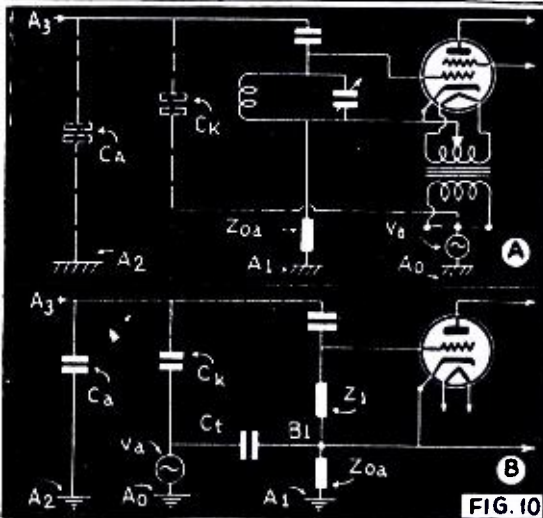
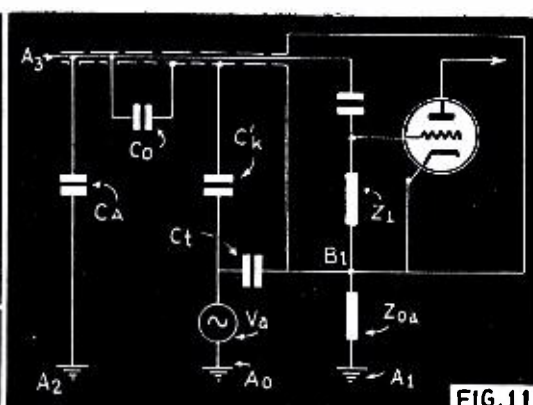

FIG. 10
FIG. 11
Fig. 10. Circuit of the input of a radio receiving set (A) with the corresponding equivalent circuit (B). The aerial A3 is loosely coupled with the tuned circuit represented by Z1. The aerial lead wire possesses stray capacities Ca toward ground (A2), and Ck toward the source of interference Va. The ground point B1 of the receiving set is connected with ground A1 over the ground impedance Z0a. The capacitive coupling of the source of interference Va with the supply side of the receiving set over the supply transformer is represented by Ct.
In Fig. 10 a diagram is given of the input of a radio receiving set, accompanied by an equivalent circuit (*). Those interferences which are capable of causing the occurrence of an appreciable interference between the cathode and the grid of the receiving tube, i.e., over Z1, in the equivalent circuit, will be disturbing for radio reception. We must keep in mind here that in the practical case of a good receiver care is taken that the capacitive coupling Ct between the primary and the secondary winding of the supply transformer is made sufficiently small, so that one need not in general fear that disturbing interference voltages will act across Z1 by way of the circuit Va, Ct, Z1, Ca, A2, A0. If this should be the case the impedance of this circuit can be increased by introducing a high-frequency choke coil in series with Ct, i.e., in the primary circuit of the supply transformer; the impedance of the primary is large with respect to that of Ct and also with respect to the ground impedance Z0a, so that the interference current still flowing through Ct can easily flow off to ground (A1) and only an extremely small fraction passes through Z1 and Ca to A2.
Fig. 11. Interference suppression in the radio set of Fig. 10 by means of shielding the aerial (dotted line). This shielding is connected with the ground point B1 of the receiver which is connected with ground (A1) via Z0a. The shielding has a capacitive coupling C0 with the aerial connecting wire and Ck' with the source of interference Va. The latter can no longer, as in Fig. 10, cause an interference to penetrate into the receiving set by way of the aerial connection.
This shielding is obtained by the use of shielded cable, whose core, which serves as aerial lead, has only a low capacity with respect to the grounded metal covering. The capacity C0 in Fig. 11 is therefore small, so that the intensity of reception is not thereby decreased disturbingly. The grounding of the metal casing is done by connecting it with the ground point B1 of the receiver, as indicated in Fig. 11. As a result the interference voltage Va can now no longer cause an interference current to penetrate into the receiving set over the aerial input by means of a capacitive coupling (Ck in Fig. 10) between supply line and aerial input lead, because the coupling capacity (Ck' in Fig. 11) means only an increase of the capacity Ct of the transformer windings.
The only circuit over which an interference current can now pass through Z1 is: Va, Ct + Ck', Z1, Ca, A2, A0. Just as was noted in the discussion of the circuit over Ct and Z1 in Fig. 10, here also no disturbing interference currents will flow in the circuit of Ct + Ck' and Z1 in Fig. 11, if only the ground impedance Z0a can be made small enough with respect to the impedance of the capacity Ct + Ck'. Practically the interference current is then immediately conducted to ground (A1) through Z0a. The suppression of interference which can be